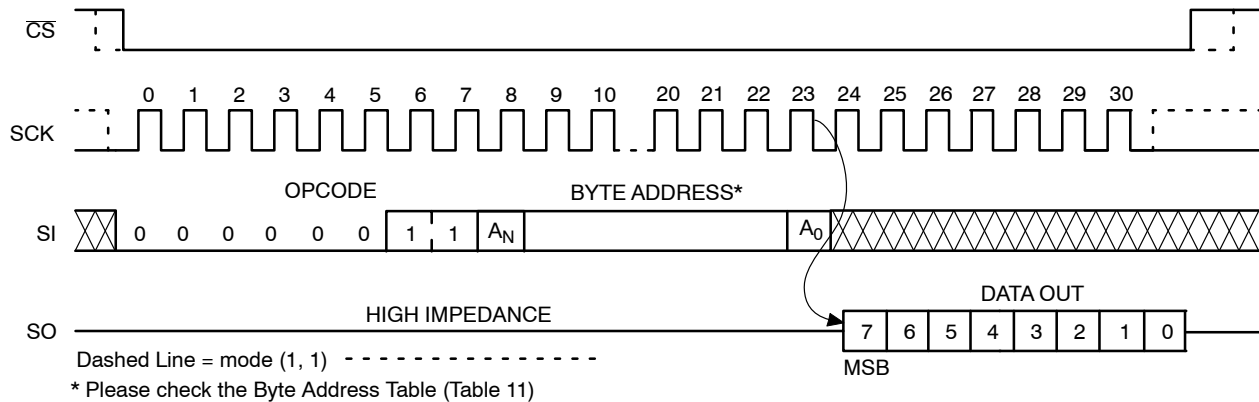

Figure 9. READ Timing
After receiving the last address bit, the CAV25512 will respond by shifting out data on the SO pin (as shown in Figure 9). Sequentially stored data can be read out by simply continuing to run the clock. The internal address pointer is automatically incremented to the next higher address as data is shifted out. After reaching the highest memory address, the address counter “rolls over” to the lowest memory address, and the read cycle can be continued indefinitely. The read operation is terminated by taking  $\overline{CS}$  high.
Reading the additional 128-byte Identification Page (IP) is achieved using the same Read command sequence as used for Read from main memory array (Figure 9). **The IPL bit from the Status Register must be set (IPL = 1) before attempting to read from the IP.** The [A6:A0] are the address significant bits that point to the data byte shifted out on the